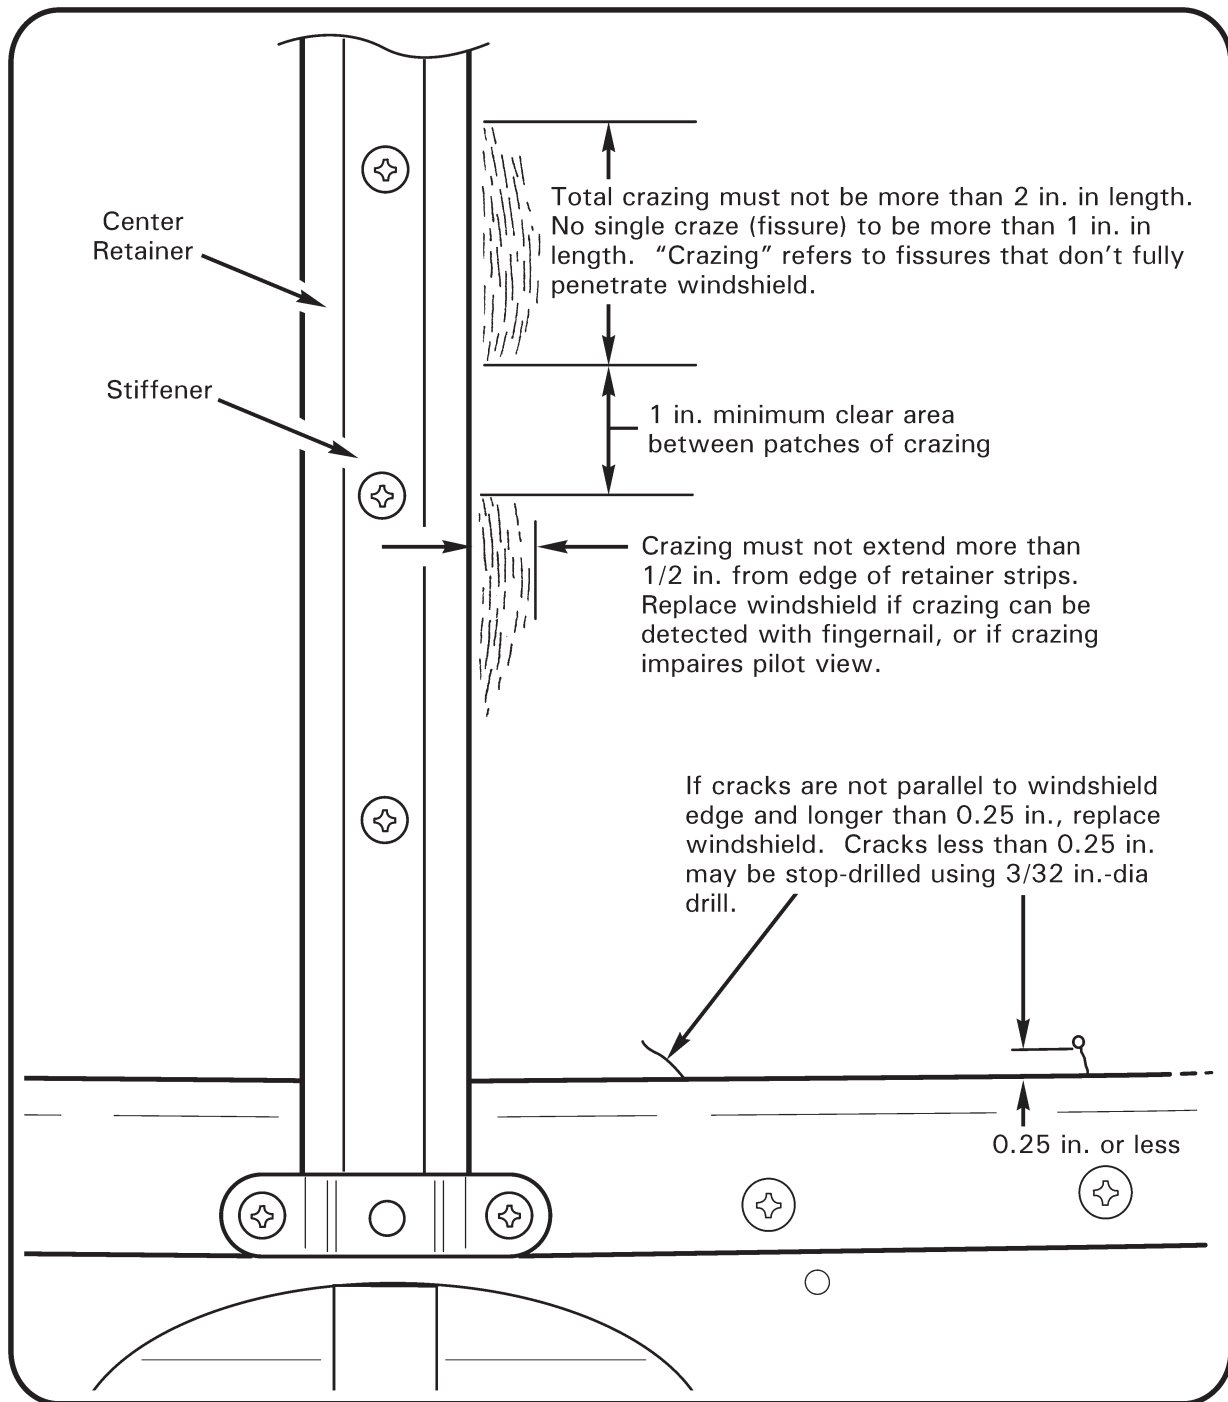

FIGURE 25-1 WINDSHIELD INSPECTION
1. Inspect windshield for cracks and crazing adjacent to retainer strips per Figure 25-1. If cracks exceed these limits, replace windshields per § 25-20 Part D.